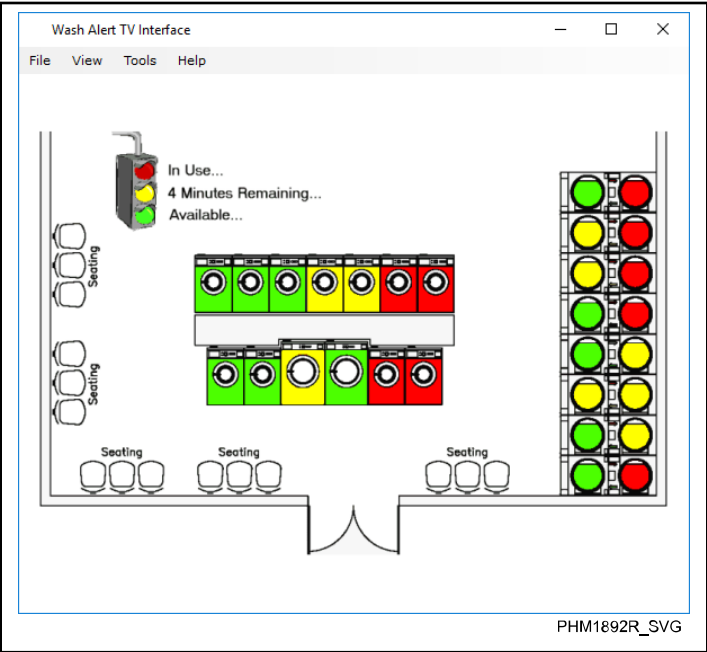

Figure 61
1. From the "Start" menu, select **All Programs > Quantum Vended Software > WashAlert TV Interface**. Refer to *Figure 61*.